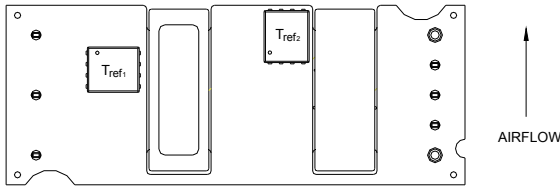
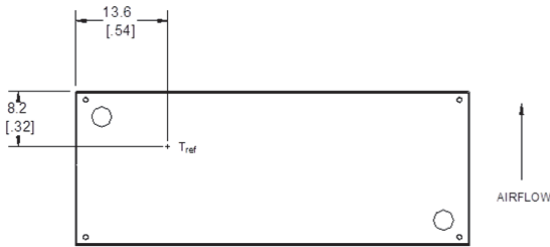

Figure 13. T_{ref} Temperature Measurement Locations for Open Frame Module.
Figure 14. T_{ref} Temperature Measurement Location for Module with Heatplate.
To provide protection under certain fault conditions, the unit is equipped with a thermal shutdown circuit. The unit will shutdown if the thermal reference point, T_{ref} , exceeds 122° and 123°C (Figure 13, typical) or 105 °C (Figure 14, typical), but the thermal shutdown is not intended as a guarantee that the unit will survive temperatures beyond its rating. The module will automatically restart upon cool-down to a safe temperature.
The thermal reference points, T_{ref1} and T_{ref2} , used in the specifications for open frame modules are shown in Figure 13. For reliable operation these temperatures should not exceed 122° and 123°C respectively.
The thermal reference point, T_{ref} , used in the specifications for modules with heatplate is shown in Figure 14. For reliable operation this temperature should not exceed 100°C.